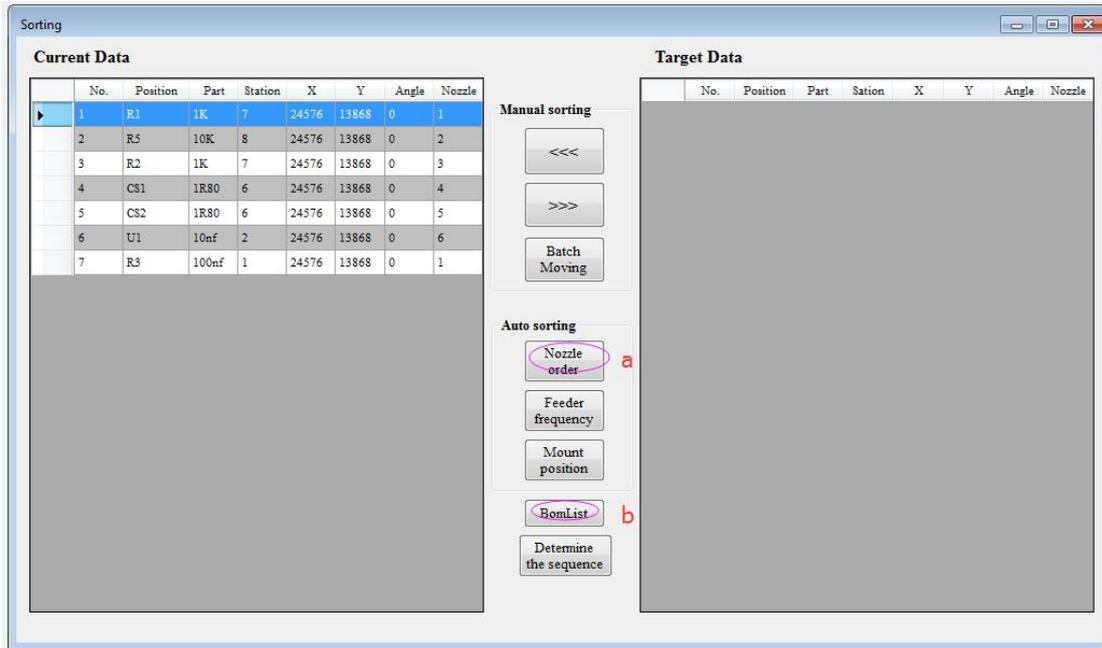

Figure 5-7-7
⑤ Enter sorting interface, click “Nozzle order”, then “Bomlist” shown as Figure 5-7-7, will